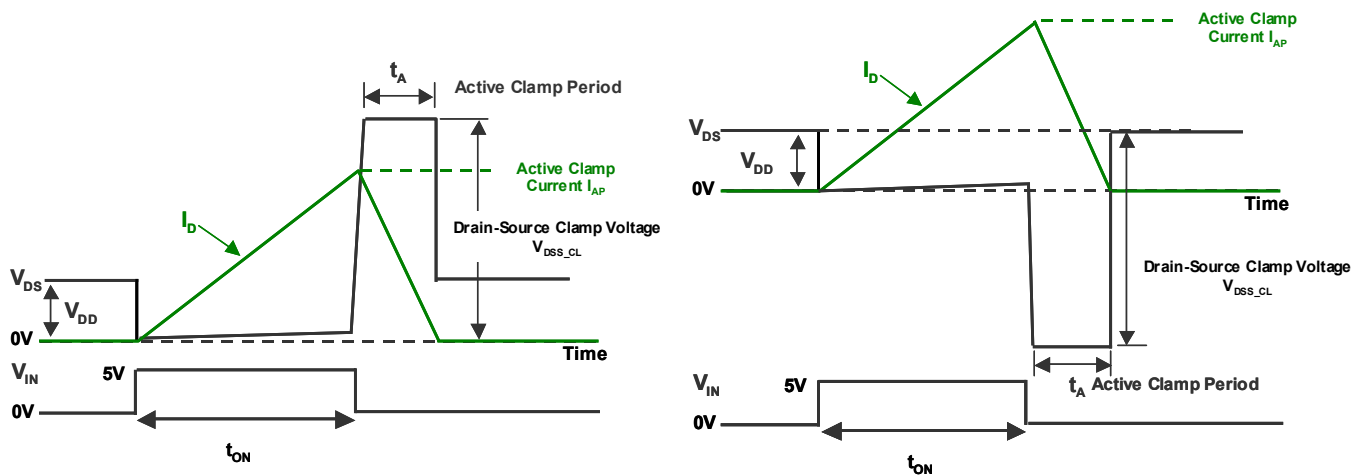

Fig1. Active Clamp Waveform (Left: Low-side Switch / Right: High-side Switch)
- IC operation without an external protection parts (Fig 1)